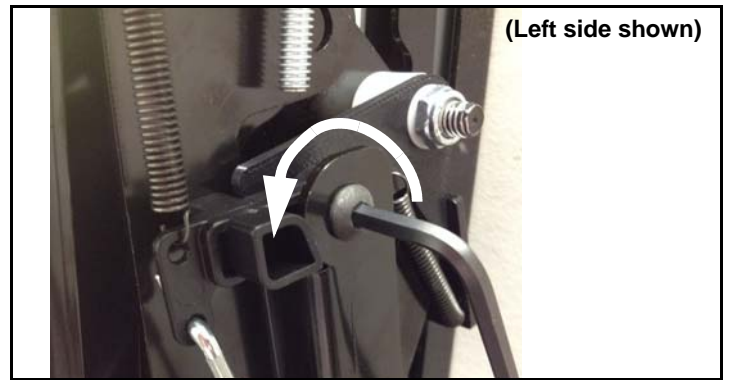

Figure 3
2. Remove and save the button head screw holding the piece in place. (See Figure 3)